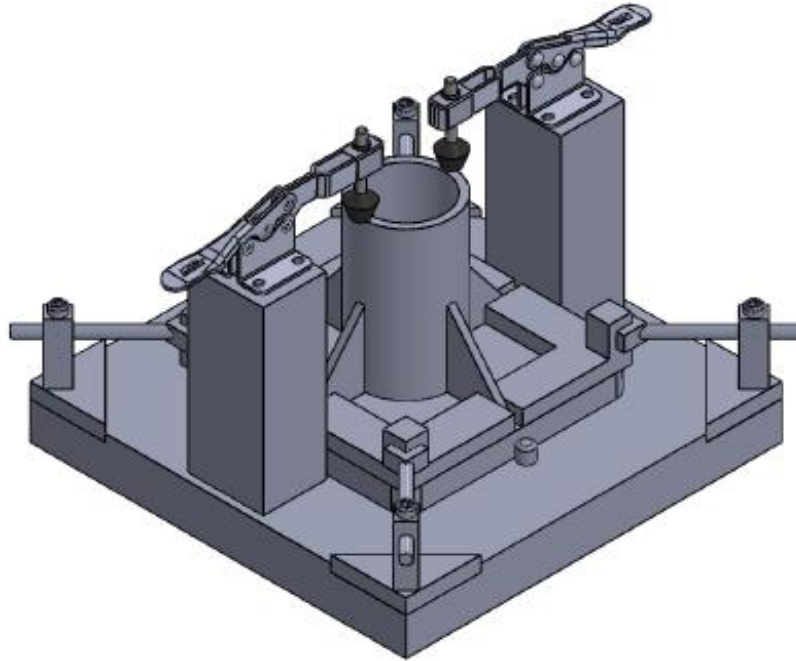

Figure 1
Refer to Figure 1 to answer question 4 (a), (b), (c), and (d).
- (a) Evaluate the clamping devices design in Figure 1. Recommend the best design for the clamping system. (6 marks)
- (d) Based on Figure 1, there are no fastening systems in the design. Suggest the best fastening method/ design for the fastenings system in the jig. You are advised to sketch to assist your explanation. (4 marks)